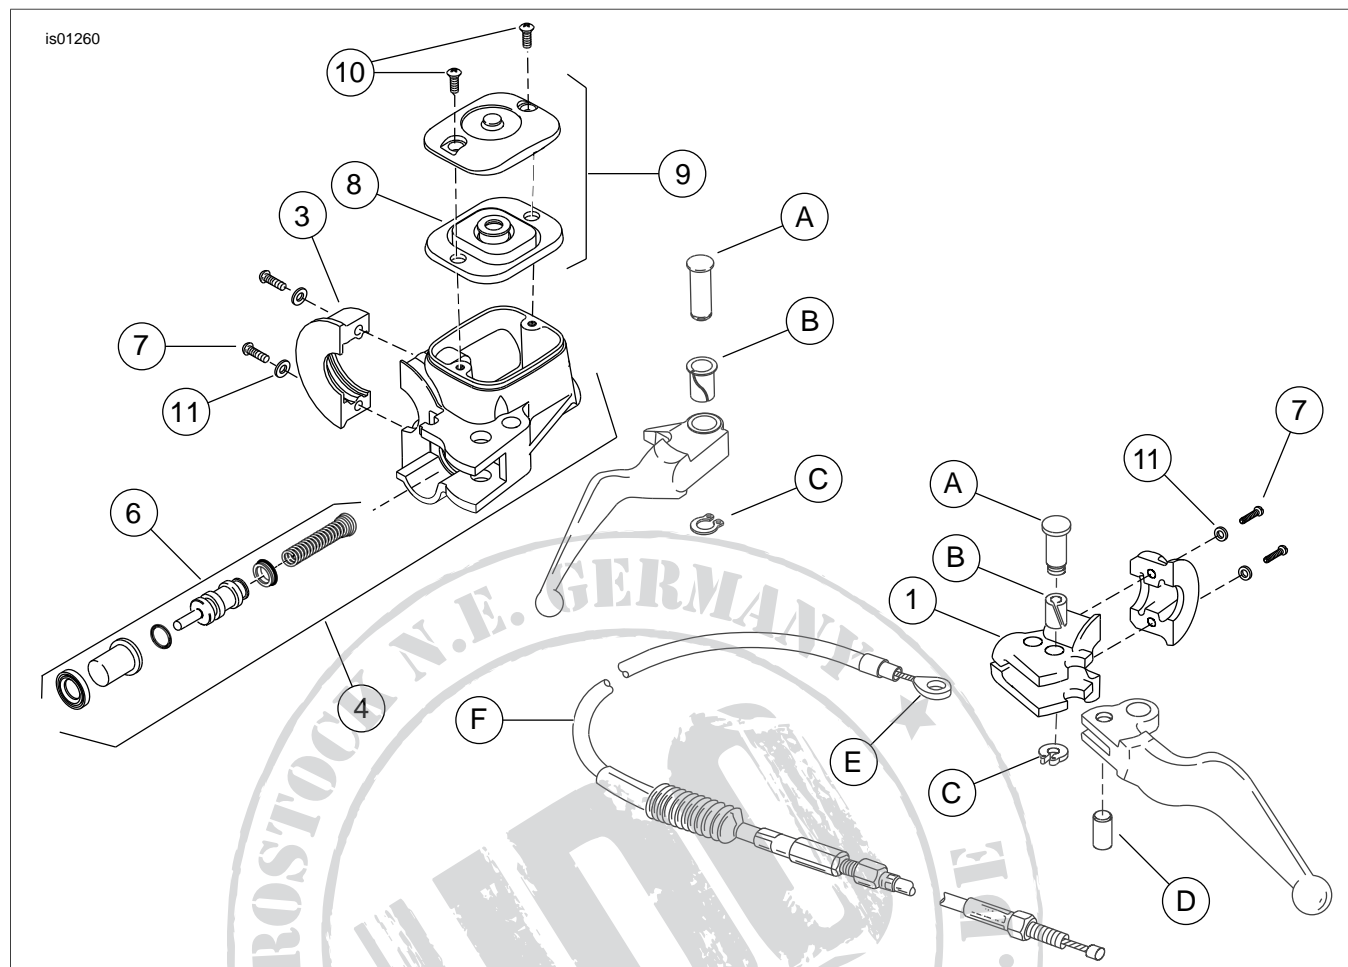

Figure 6. Service Parts: Chrome Master Cylinder And Clutch Bracket Kit
- See Figure 6. Using T27 TORX® drive head, remove the two screws with flat washers securing the handlebar clamp to the master cylinder housing. Remove the brake lever/master cylinder assembly and clamp from the handlebar.
3. See Figure 6. Remove the clutch cable anchor pin (D) from the hand lever (G). To remove anchor pin, it will be necessary to remove the retaining ring (C) and pivot pin (A).
4. Remove clevis (E) and clutch lever.
1. See Figure 6. Install the clutch cable (F) and anchor pin (D) in the clutch hand lever (G). The flat in the pin must face in towards the hand lever.